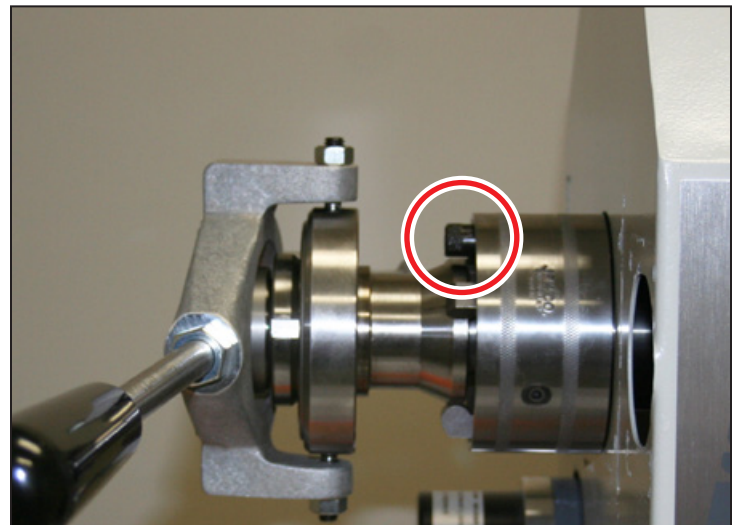

Figure 23
2. Identify Index Pin on Collet Closer's index plate (see **Figure 23**).